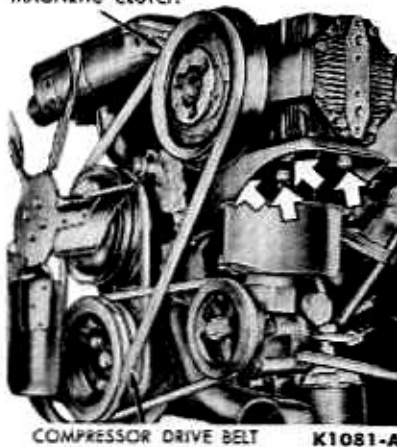

FIG. 52—Compressor Mounting
1. Loosen the four compressor mounting bolts (large arrows Fig. 52).
3. Place the new belt in position, slide the compressor toward the out-plate and compressor gasket surfaces side of the car and tighten the four mounting nuts (Fig. 52).
4. Loosen and remove the compressor mounting bolts (large arrows, Fig. 52), and remove the compressor.
8. Place the compressor on the mounting bracket and install the four mounting bolts finger tight (Fig. 52).